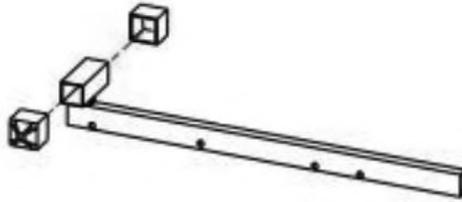

Figure 24
- Attach the end caps to boom as shown in Fig. 24.